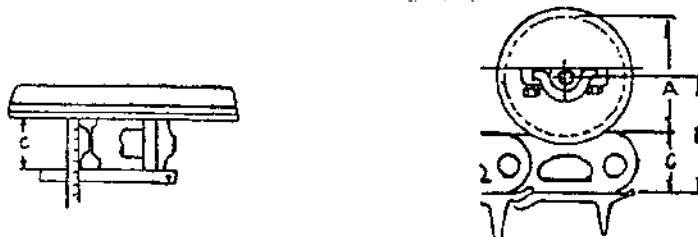

Fig. 5-24
(5) Measuring outside diameter of track roller
a. Measure height C between upper and lower surfaces of link as shown in Fig. 5-24.